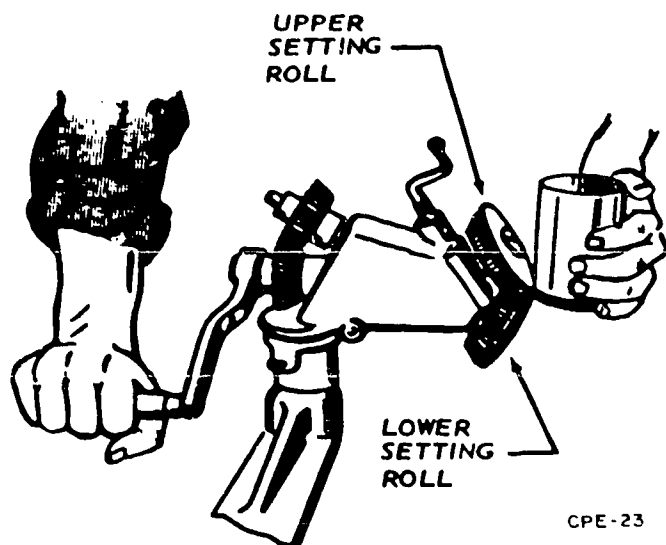

Figure 3-10. Setting down machine.
**Setting down machine.** The setting down machine, shown in figure 3-10, is used for tightening or setting down the edges prior to double seaming. Two styles of setting down machines are available—one has the upper roll perpendicular to the lower roll, and the other has both rolls sloping toward the machine.